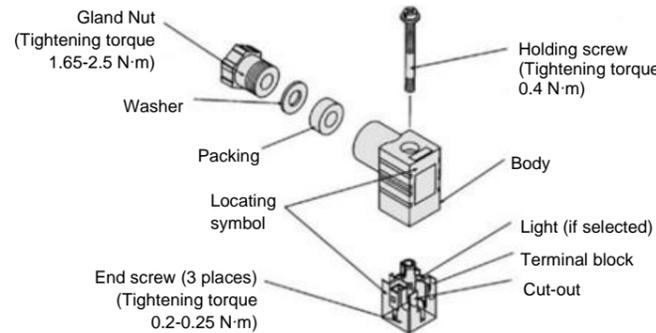

Figure 7. JSP10 DIN connector construction
- Tighten screws and fittings according to Figure 7 or 8.